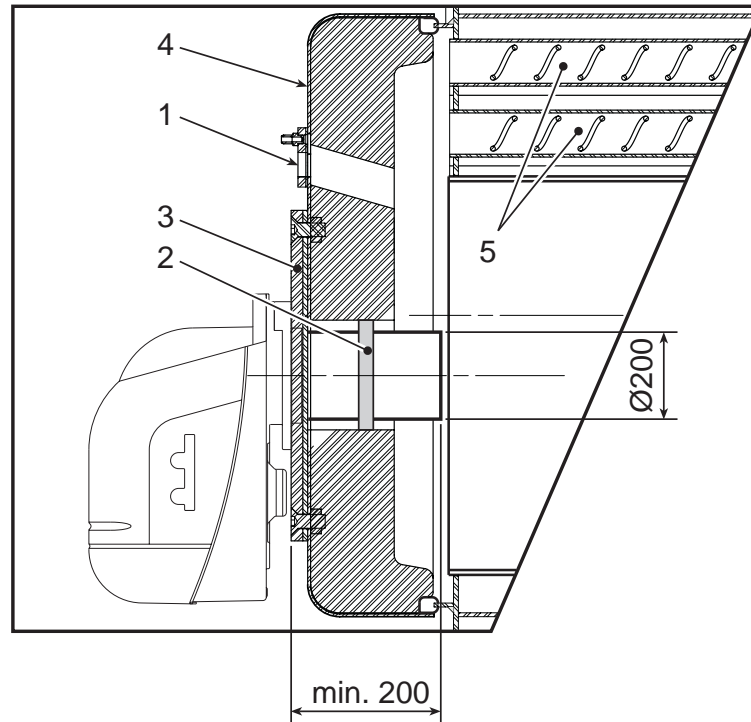

fig. 3
2.2 Connecting the burner (fig. 3)